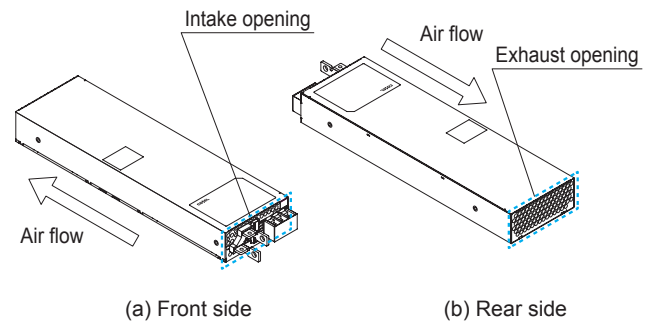

Fig.6.2 Location of intake port and exhaust port
- Differences from standard products are shown in Fig.6.2 and Fig.6.3.